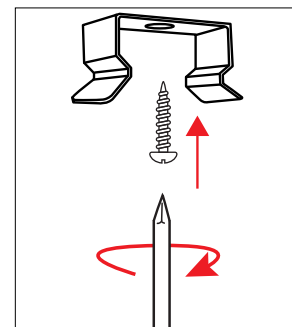

Figure 1
2. Using screws that holds securely in mounting material, install mounting clips approximately 2" to 4" from each end of the NULS. (Figure 1)